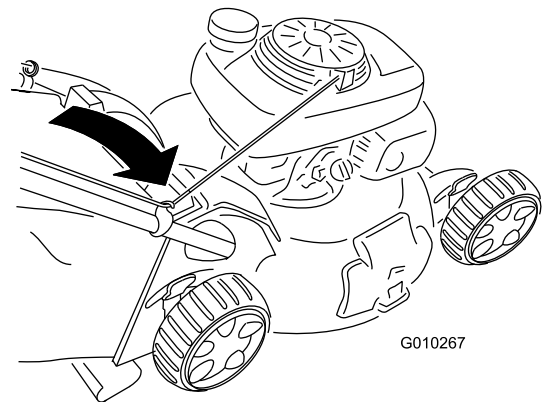

Figure 26
2. Route the starter rope around the lower-rope guide (Figure 26).